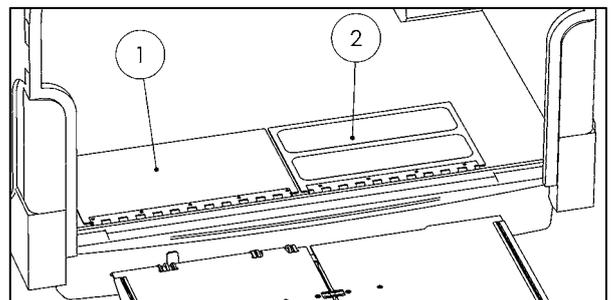

Figure 65
- Fasten the bridge plate with the non-skid coating (2) on the right side. The non-skid coating must face upward when the bridge plate is folded shut (see Fig. 65).
- Fasten the non-coated bridge plate (1) on the left side (see Fig. 65).